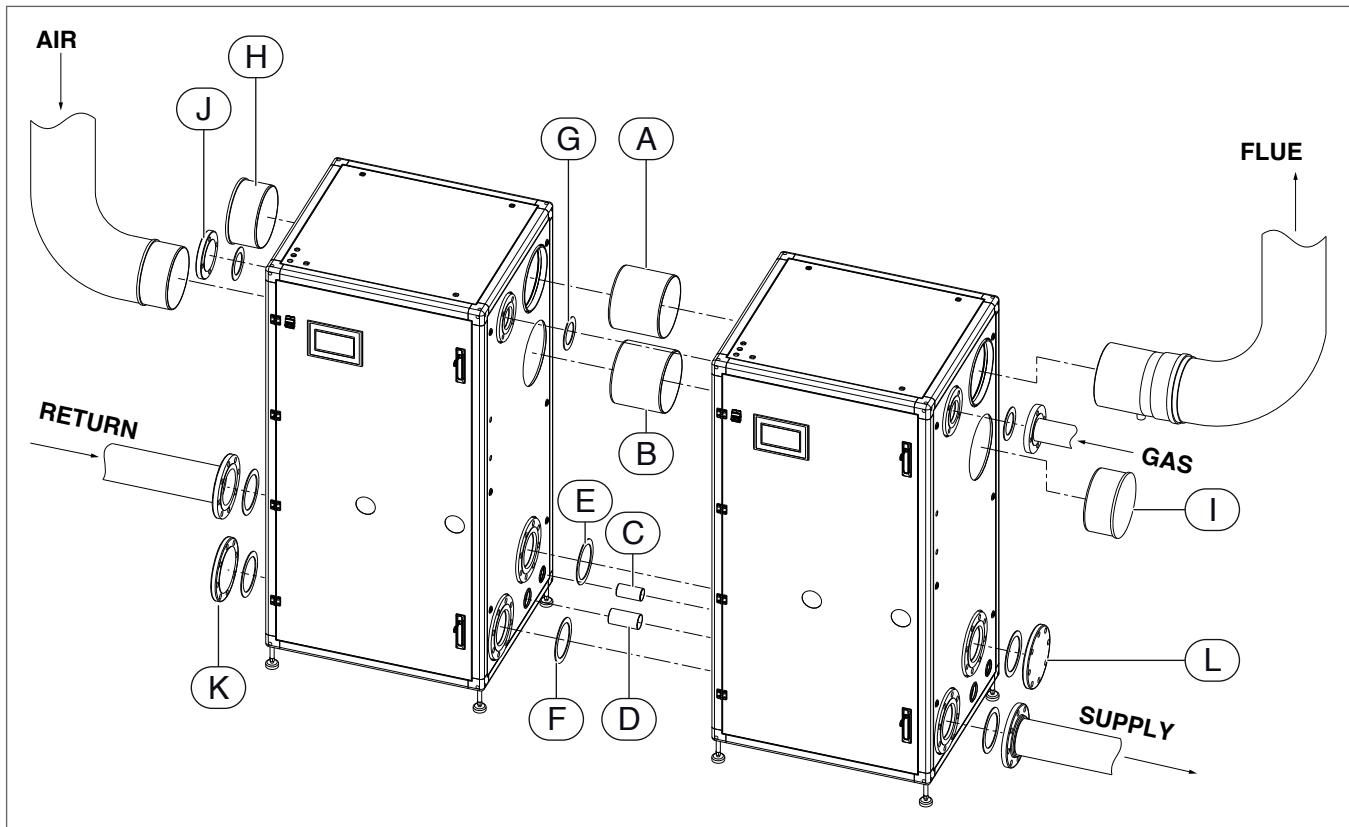

Fig. 11 SSB 1000 TL Cascade Installation
- [11] Add all relevant caps and blank flanges on the free sides of the boilers (components H, I, J, K and L on Fig. 11), with their seals;